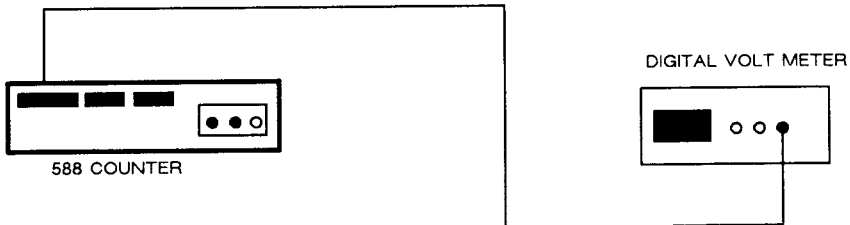

Figure 5-2. Power Supply Adjustment
1. Set up equipment as shown in Figure 5-2.